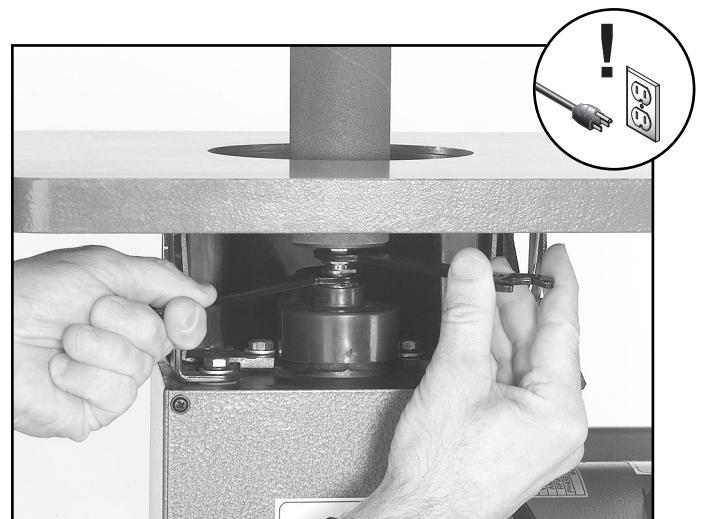

Figure 6. Installing spindle.
4. Use the supplied open end wrenches to secure the spindle as shown in **Figure 6**. Note—*Do not over tighten the spindle sleeve, it could make removal difficult.*